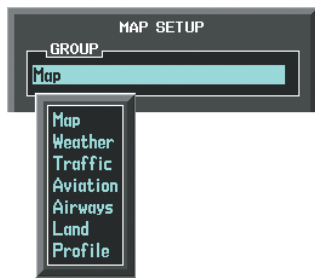

Figure 6-75 Navigation Map Page Setup Menu
- 4) Turn the small **FMS** Knob to select the 'Map' Group and press the **ENT** Key (Figure 6-75).